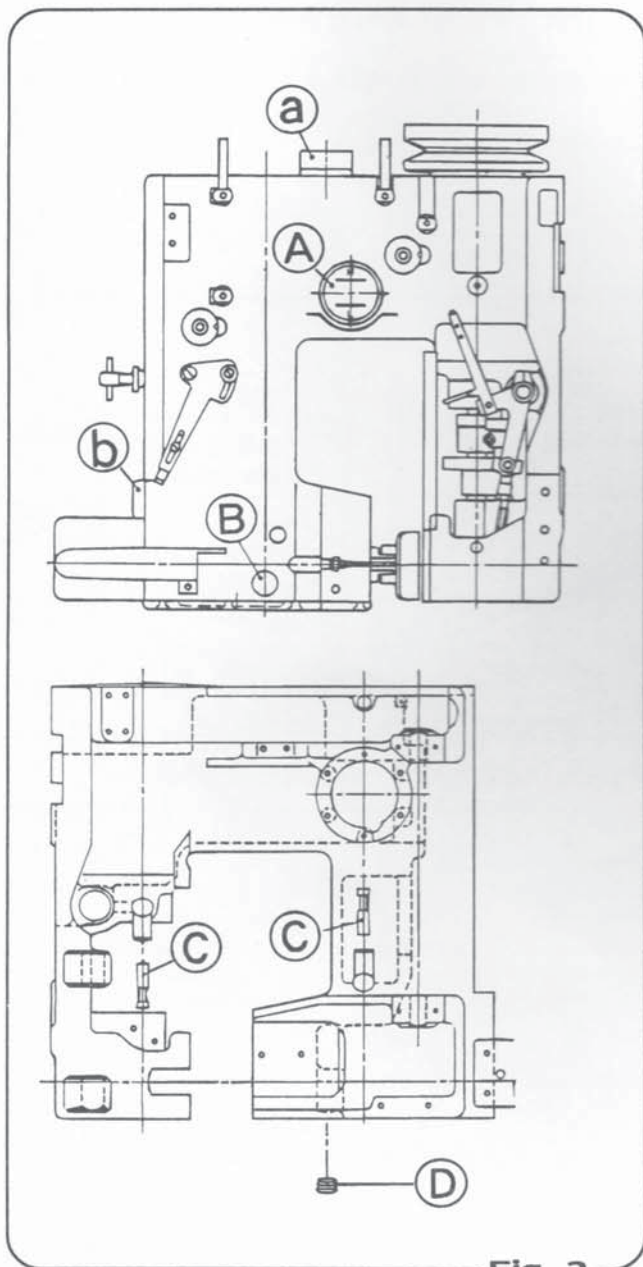

Fig. 2
- a) Unscrew breather cap a and fill with oil to between the maximum and minimum levels (A). Approximately 1,600cc should be used. (Fig.2)
- b) Remove cover (b) and fill with oil so that level reaches the 'red point' indicator (B). Approximately 140 cc should be used. (Fig.2)
As indicated (Fig.2) oil is drained from the machine by rotating and un-plugging. (C, D).
- a) 往(A)注油口儿加油，请拧开注油盖(a)后，加油直到油上面到“H”水准标记为止。注油量约 1,600cc (图2)
- b) 往(B)注油口儿加油，请拧开注油盖(b)后，加油直到油上面到红色圈为止。注油量约 140cc(图2)